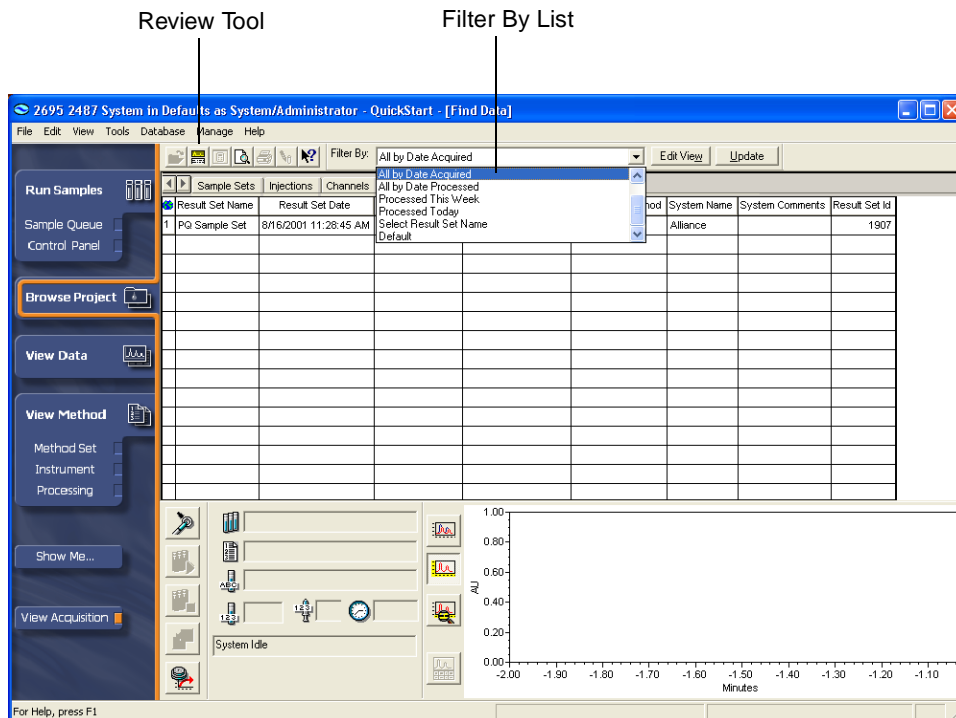

Figure 7-1 Browse Project, Result Sets Tab
1. Click **Browse Project** on the navigation bar. The Browse Project window displays the last tab used. Click the **Result Sets** tab. The Results Sets view table appears (Figure 7-1).